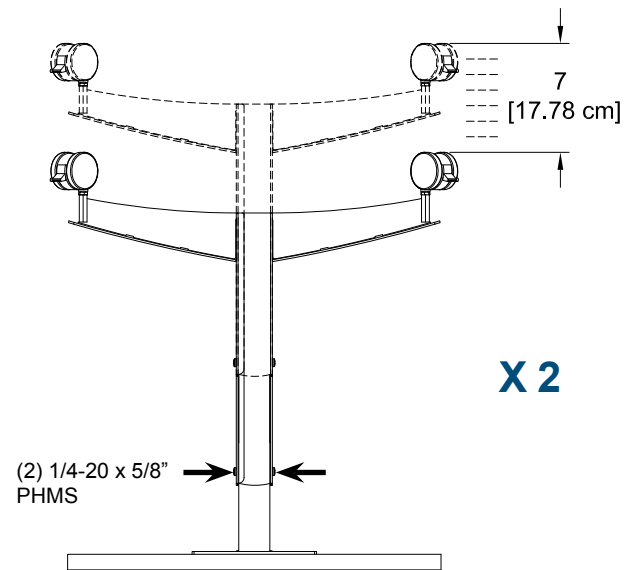

Figure 5
1. Orient the modesty panel and corners as shown and lock together. **Figure 5.**